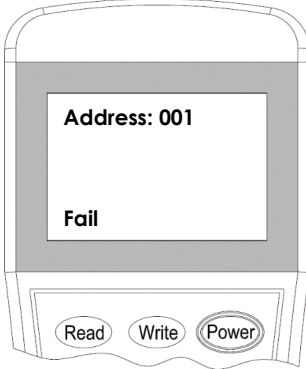

Figure 7
**Note:** If display **“Success”**, means the entered address is confirmed. If display **“Fail”**, means failure to program the address (Figure 7).